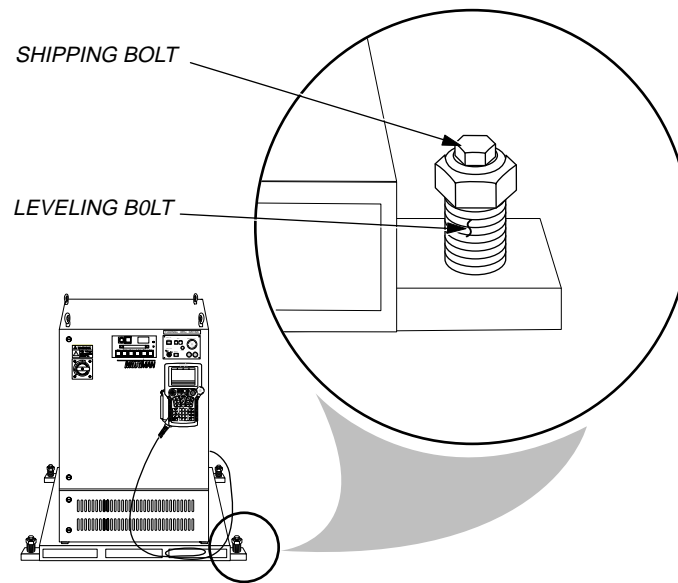

Figure 4-17 Unbolting the Auxiliary Equipment Common (AEC) Base
1. Unfold arc curtains and install one piece on inside of each cell wall, using supplied wire ties and eyelets in curtain material (see Figure 4-17).